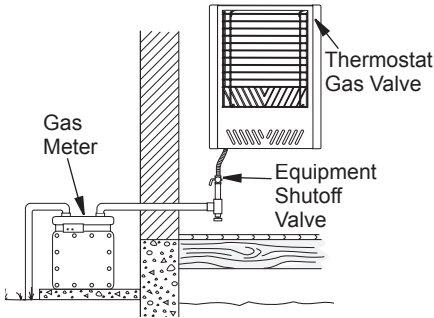

Figure 13 - Checking Gas Joints for Natural Gas
3. Check all joints from gas meter for natural gas or propane/LP supply tank for propane/LP gas, to equipment shutoff valve (see Figure 13 or 14, page 12). Apply a noncorrosive leak detection fluid to all joints. Bubbles forming show a leak.
4. Check all joints from equipment shutoff valve to thermostat gas valve (see Figure 13 or 14, page 12). Apply a noncorrosive leak detection fluid to all joints. Bubbles forming show a leak.